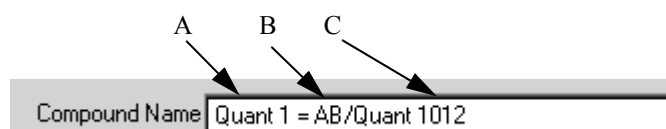

Figure 64: Example of an information input
Select the *Add Information* command. Enter the following data into the *Compound name* line (figure 64): name of the OPUS function (A), result data block (B) as well as the corresponding element from the QUANT report (C), i.e. main report number, sub-report number, line, column.